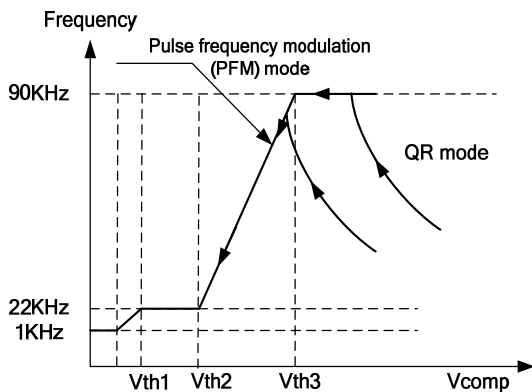

Figure 2 Multi-mode operation diagram
OB2571x is an excellent integrated multi-mode (see Figure 2) PWM controller optimized for off-line middle power AC/DC applications. It operates in quasi-resonant mode (QR) to provide high efficiency with primary side sensing and regulation thus provides cost effective solution for energy efficient power supplies.